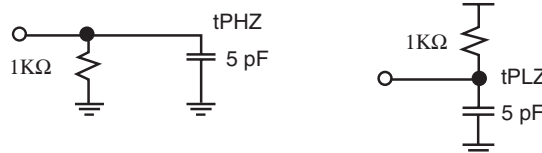

Figure 5: Loads Used for tPXZ
a. These loads are used for tPXZ (see Figure 5)